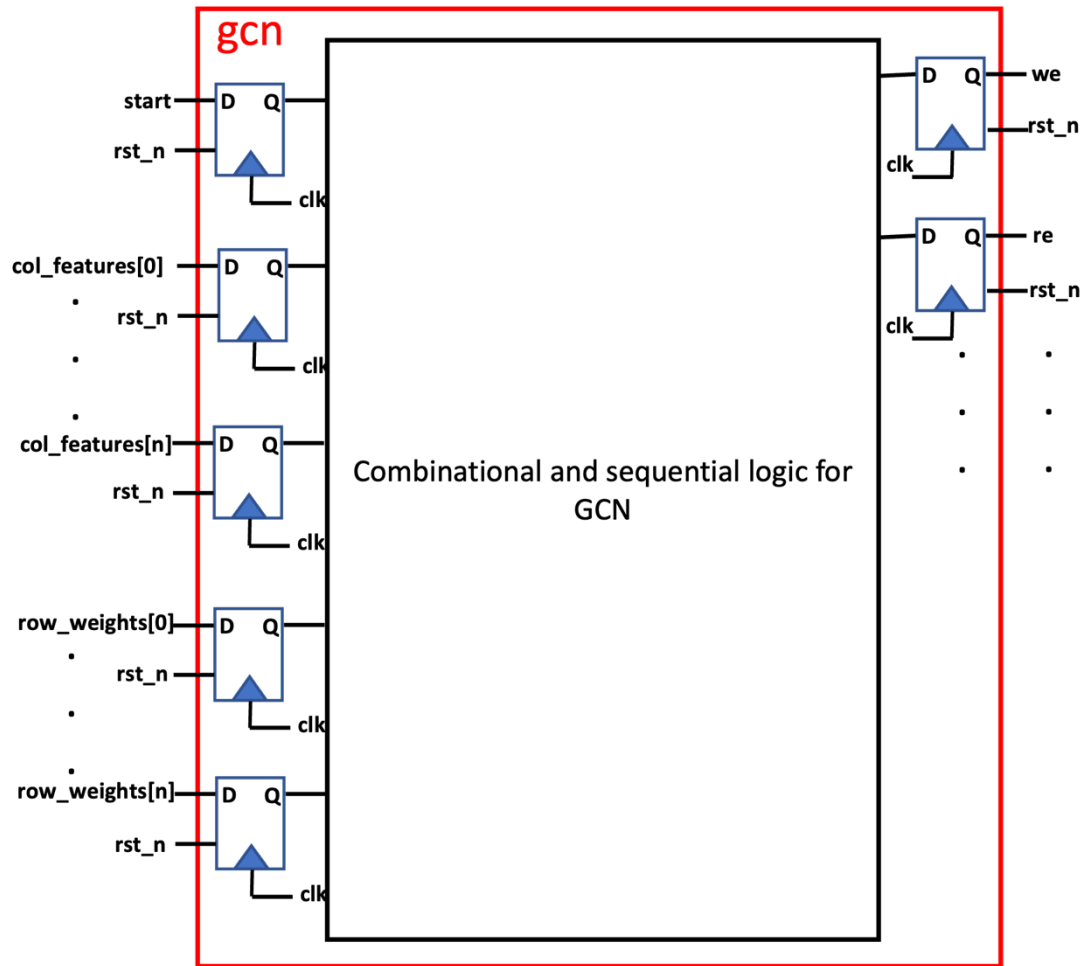

Figure 5. Illustration of the hardware module.
- As illustrated in the Fig. 5, all the inputs and outputs should be connected to input/output flip-flops at the boundary of the gcن module (no logic between the primary inputs/outputs and the boundary flip-flops). **Hint:** Make a parametrized DFF and use it for both inputs and outputs.